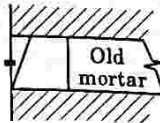

Fig. 5.20.6. Tuck pointing.
- iii. The groove is then filled in or tucked in by white cement putty with a projection of 3 mm as shown in Fig. 5.20.6.